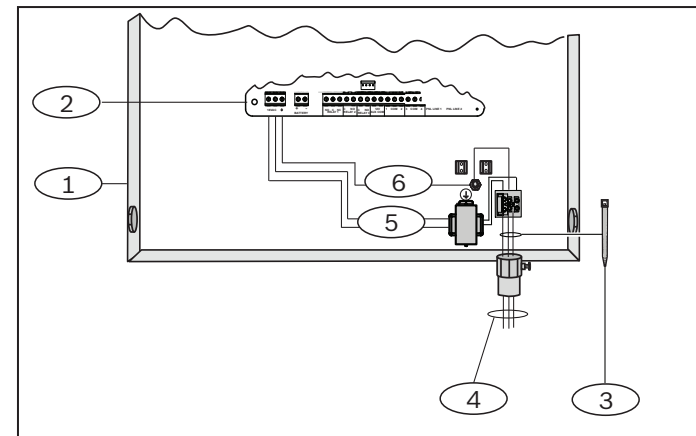

Figure 2.1: Wiring
Insert the conduit wiring (callout #4) through the conduit. Refer to *Figure 2.1* for wiring connections.
3. Secure the conduit wiring with the supplied tie-wrap. Refer to Figure 2.1.